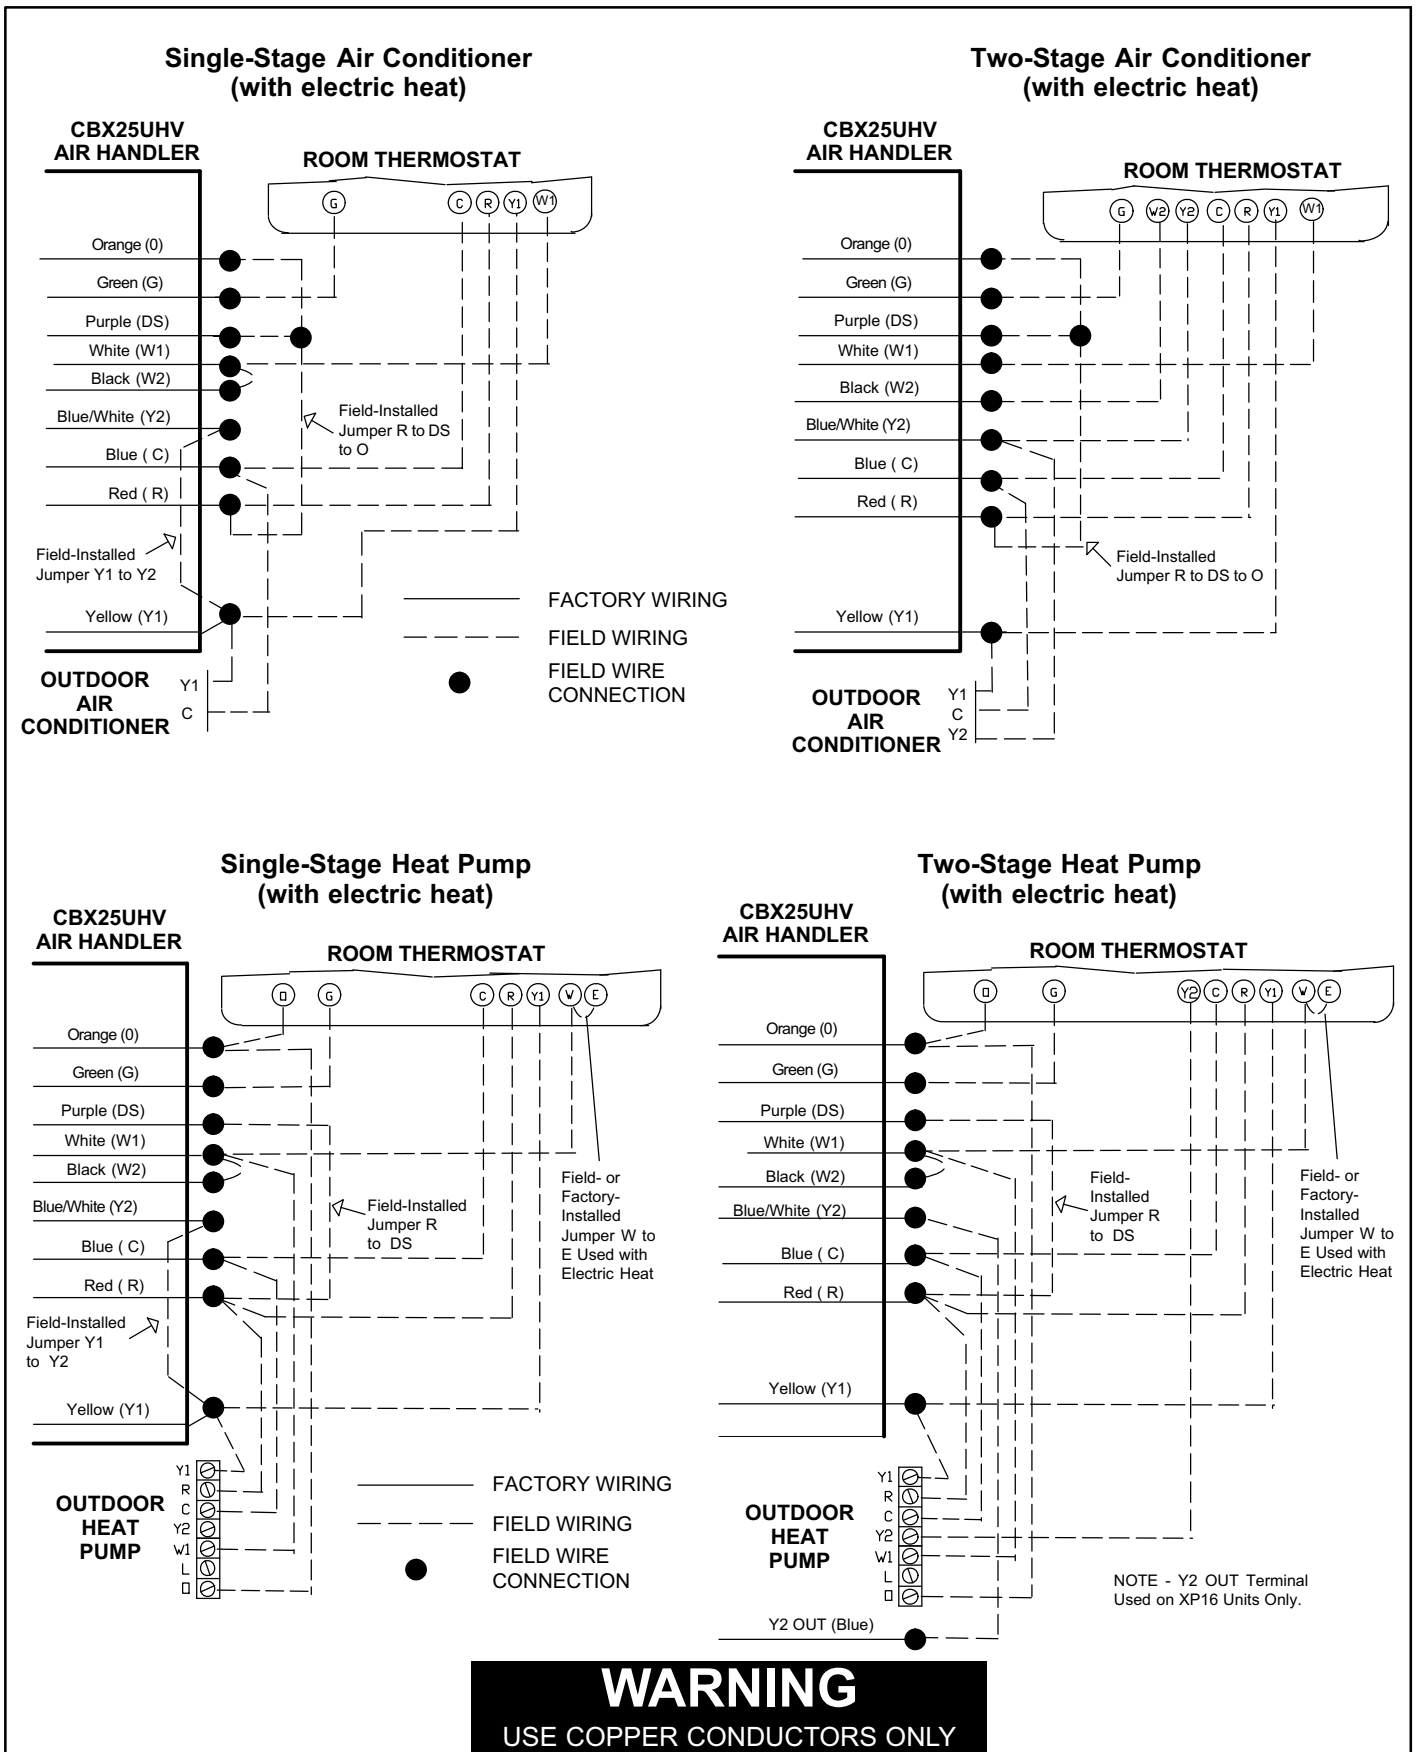

Figure 17. Low Voltage Connections (Variable-Speed Motor)
- See figure 17 for typical low voltage field wiring connections.